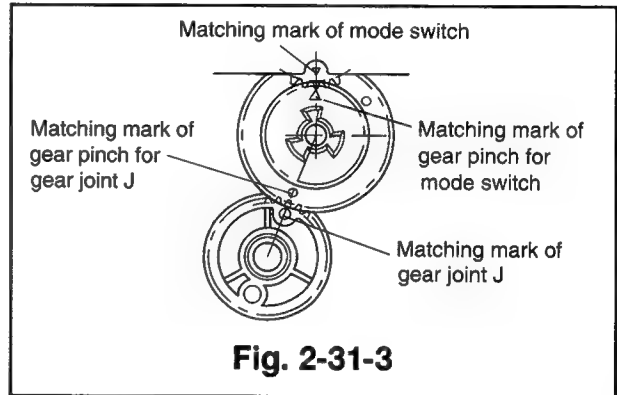

Fig. 2-31-3
- ③ Turn the deck the right side up, make sure that the matching mark of the gear pinch aligns with that of the gear joint J. (When turning the deck, hold the gear joint J, in place.)(Refer to Fig. 2-31-3)
- ④ Install the loading motor assembly(which holds the motor holder). (Refer to Para. 2-29 for the installation method.)
- ⑤ Install the reel belt. (Refer to Para. 2-28 for the installation method.)